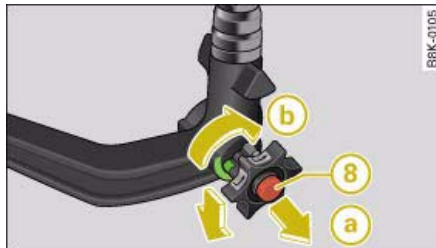

Fig. 243 Removable towing bracket: Removing the ball joint
- Take off the cover cap and insert the key (8) ⇒ fig. 243 in the lock on the knob.